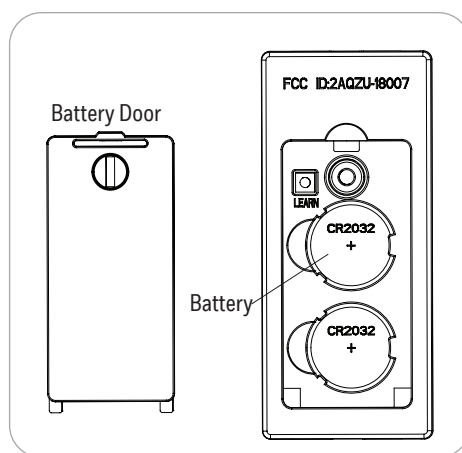

Figure 4.8
8. Remove the battery door from the back of the remote using a flat-head screwdriver (not included). Insert the two CR2032 batteries into the remote; ensure the positive pole of the batteries face up (as pictured) and then replace the battery door. Press the HIGH SPEED button to ensure the LED indicator illuminates and the fan turns on (Figure 4.8).